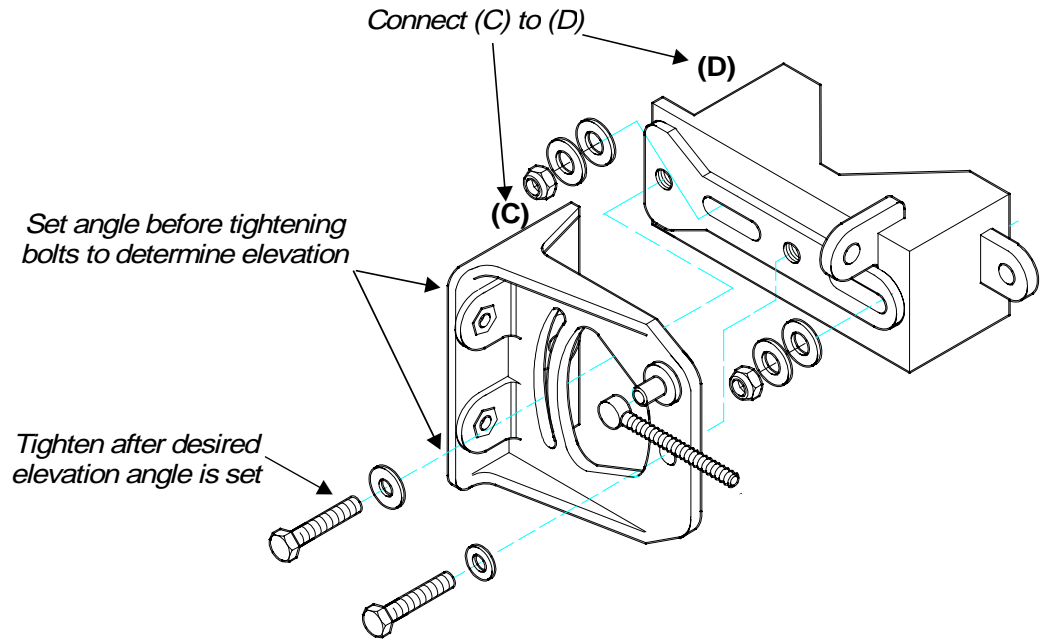

Figure 3-14 Antenna Assembly (cont.)
Note The safety collar assembly shown in Figure 3-14 above ((A) and (B)) is used to align and support the antenna mount during installation and antenna alignment. Once the mount is in place and alignment is completed, all bolted joints of the antenna mount are tightened and there is no further need for the support provided by the safety collar assembly. It may then be removed for use in future installations.